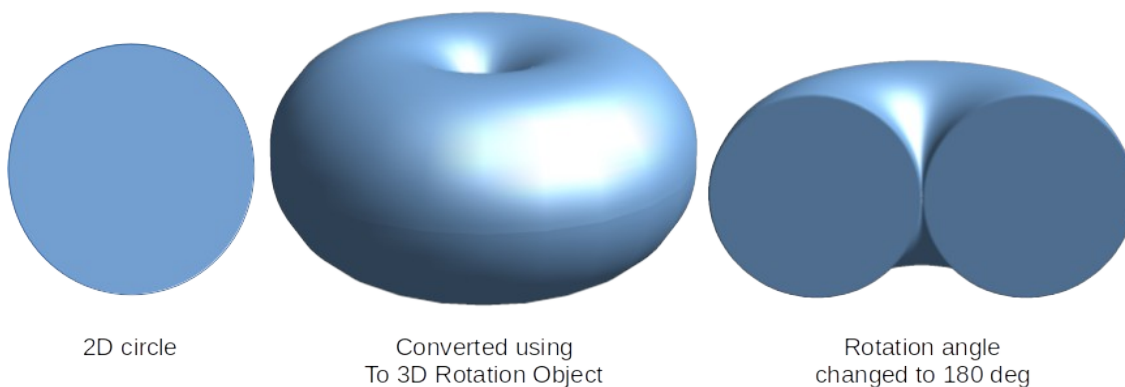

Figure 15: Example of changing rotation angle
- *Rotation angle* – enter the angle in degrees to rotate a 2D object that has been converted to 3D using **To 3D Rotation Object**. Figure 15 shows an example of a 2D circle where the rotation angle is changed to 150 degrees.